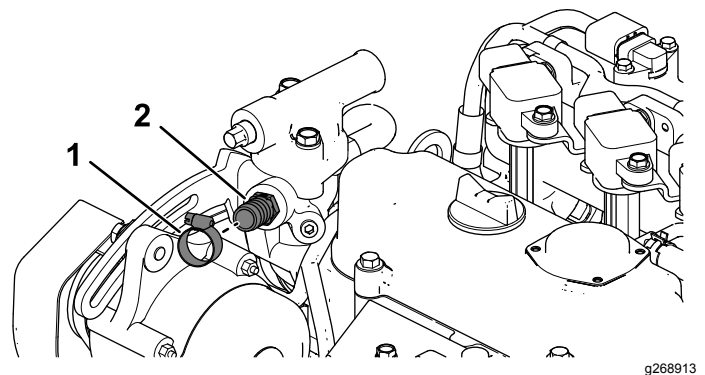

Figure 13
- B. Install the straight fitting (5/8 inch) with a hose clamp (Figure 13).